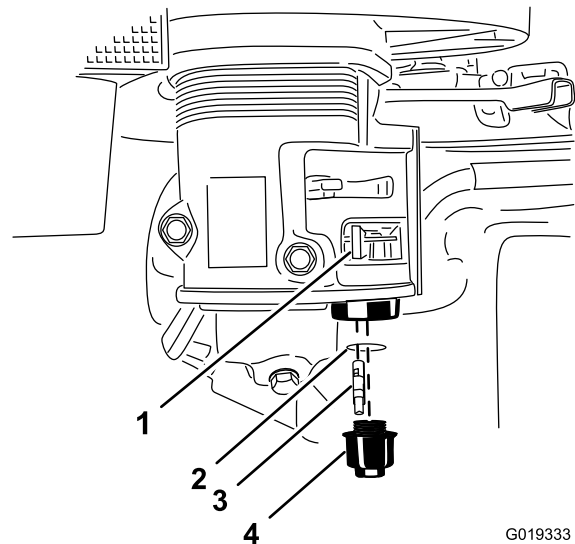

Figure 62
3. Move the lever of the fuel valve to the Off position, all the way to the left (Figure 62).
4. Unscrew the sediment cup (Figure 62).
5. Remove the fuel filter and O-ring (Figure 62).
8. Install the fuel filter in the bottom of the carburetor (Figure 62).